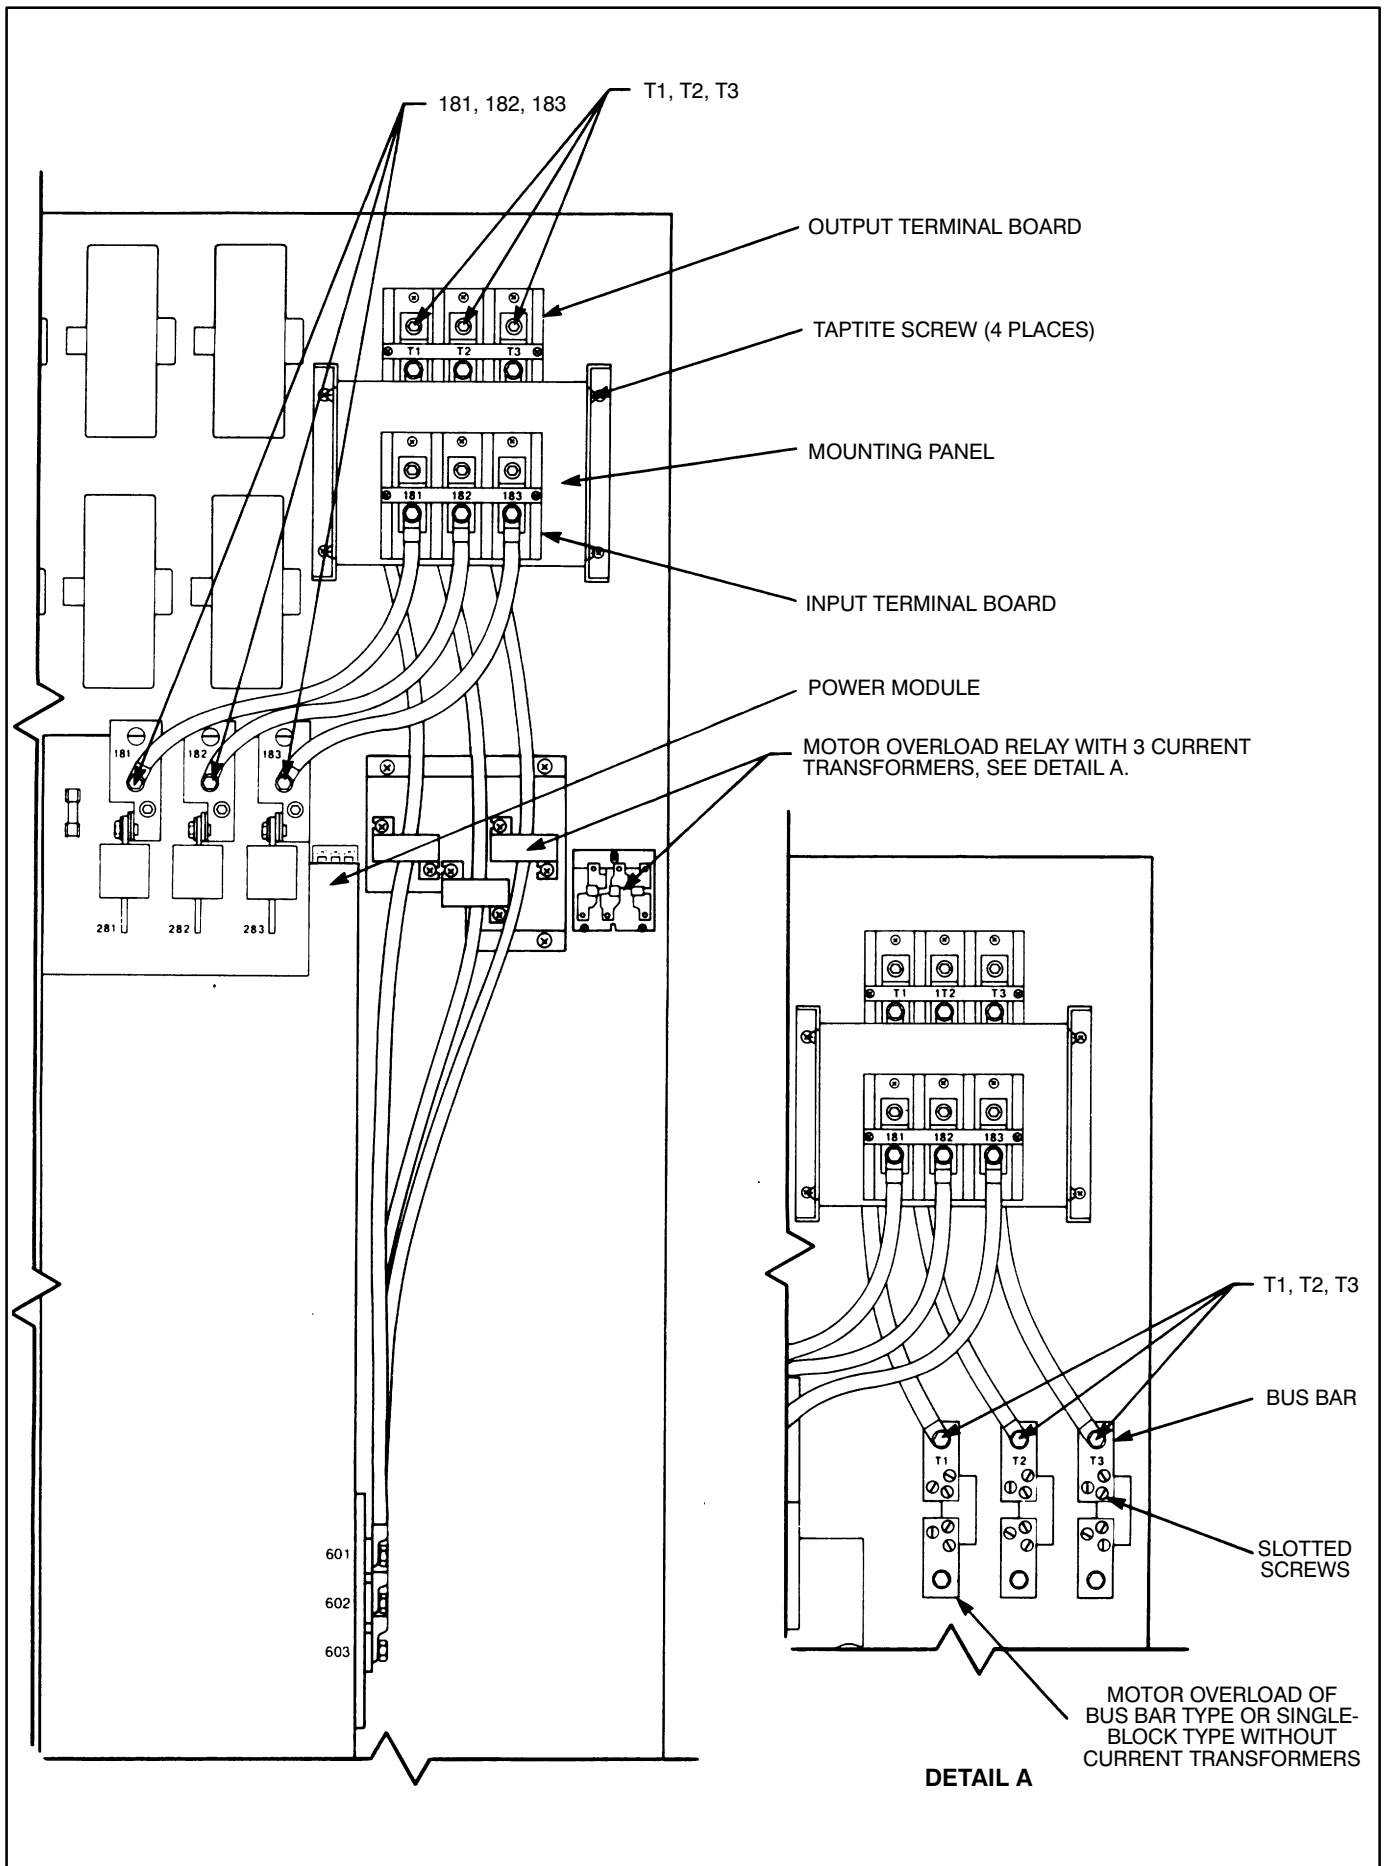

Figure 2. Remove input terminal board.
3. Remove the power module phase cover. Referring to Figure 2, remove leads 181, 182 and 183 from the power module and set the hardware aside. Remove the mounting panel with the input terminal board by removing the four taptite screws. This assembly will be re-installed later.
5. Remove the slotted screws from the upper bus bars on the motor overload relay (Detail A in Figure 2). Set the screws aside for later use.
6. Remove the hardware and internal power leads at terminals T1, T2 and T3 on the motor overload relay. See Detail A in Figure 2. Set aside the hardware for later use.
7. Disconnect motor leads T1, T2 and T3 from the output terminal board (Figure 2) and set aside the hardware for later use. Remove and discard the output terminal board with attached wire assemblies. Proceed to Step 10.
8. Remove the hardware and internal power leads at terminals 601, 602 and 603 of the power module. See Figure 2. Set aside the hardware for later use.
9. Disconnect motor leads T1, T2 and T3 from the output terminal board (Figure 2). Remove and discard the output terminal board with attached wire assemblies.